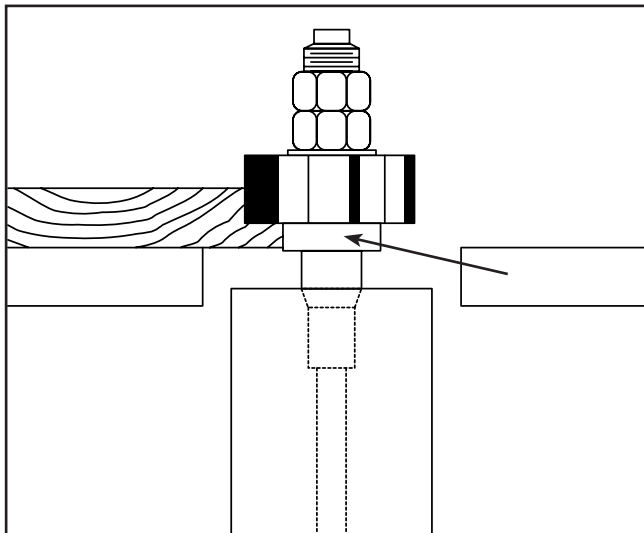

Figure 24. Rub collar installed below cutter.
1. **Rub collar below the cutter:** When the rub collar is used below the cutter as shown in **Figure 24**, the progress of the cut can be observed. However, any unintentional movement may lift the workpiece into the cutter, damaging your work and possibly kicking the workpiece back toward you with great force. We do not recommend this position.